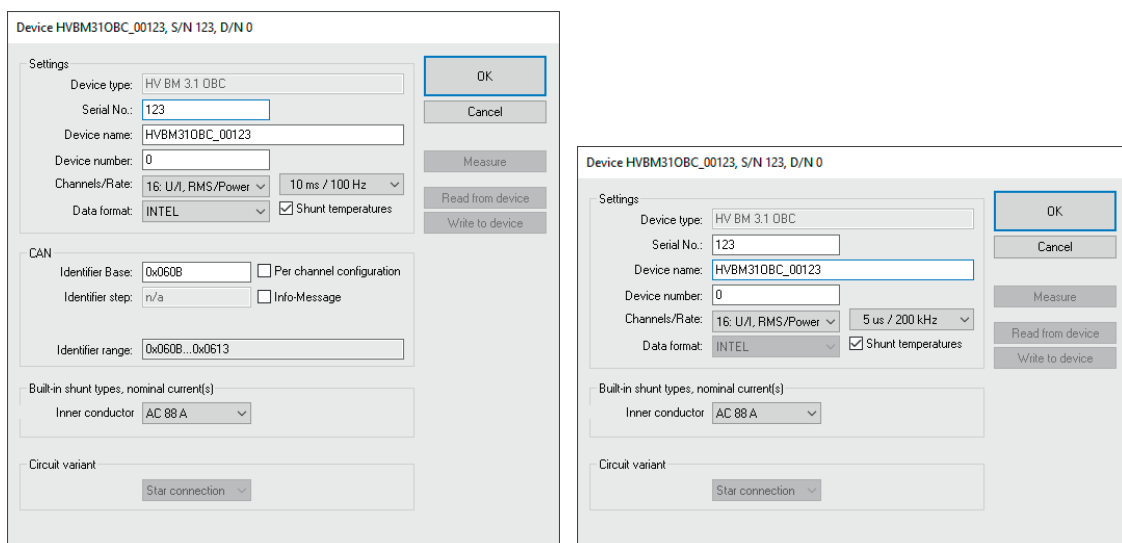

Fig. 5-36: **Device configuration dialog**, measurement module connected via CAN (left) and via XCP (right)
- ☞ Go to the **Device configuration dialog** and click on **Read from device** (Fig. 5-36).
If the default name remains unchanged, it will be automatically modified as soon as the serial number is changed. The name entered in this field is also used as a component for the channel designation (Fig. 5-36).